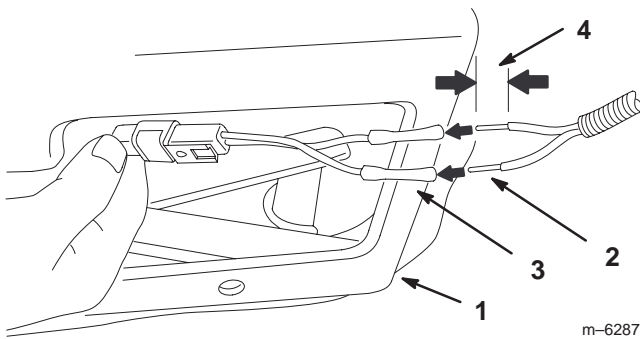

Figure 3
3. Strip approximately 3/8 inch of insulation from the end of each harness wire (Fig. 3).
4. Plug the two single wires of the old wire harness into the 2 connectors from the new seat switch (Fig. 3).
2. Remove the backing off the decal and place the decal on the righthand frame. See Figure 3.